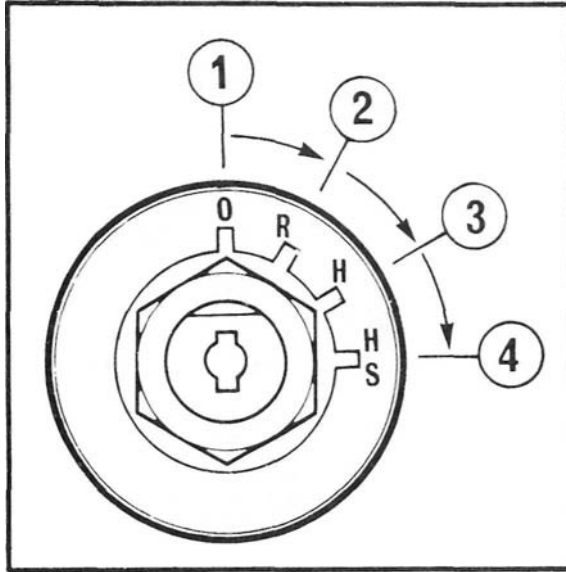

Fig. 2
2. Turn the start key to the 'heat' position (see Fig. 2) and hold it there for 15 seconds.
3. Turn the start key directly to the 'heat/start' position (see Fig. 2) to engage the starter motor.
Either turn the engine start key to the 'off' position (see Fig. 2) or operate the separate stop control. Where a separate stop control is used, ensure that the control is returned to the 'run' position after the engine has stopped and the engine start key is turned to the 'off' position.